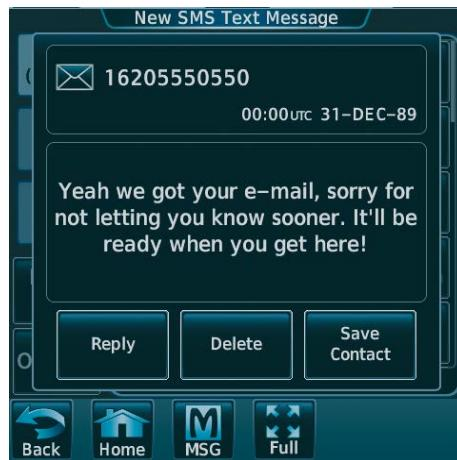

Figure 8-57 New Text Message Contents
- 2) Touch the desired message to display its contents as seen in Figure 8-57.